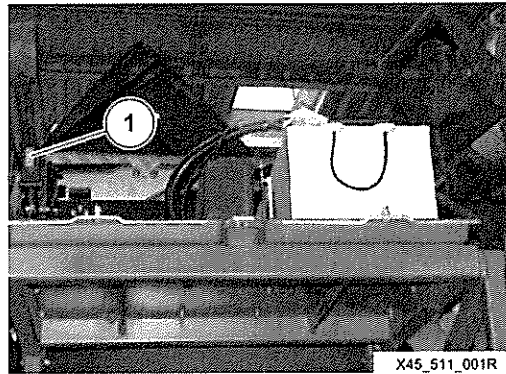

Fig 12 Auxiliary battery box
52 Refer to Fig 12. If radio power is required when the vehicle is shut down, the auxiliary battery emergency switch (1) must be set to on.